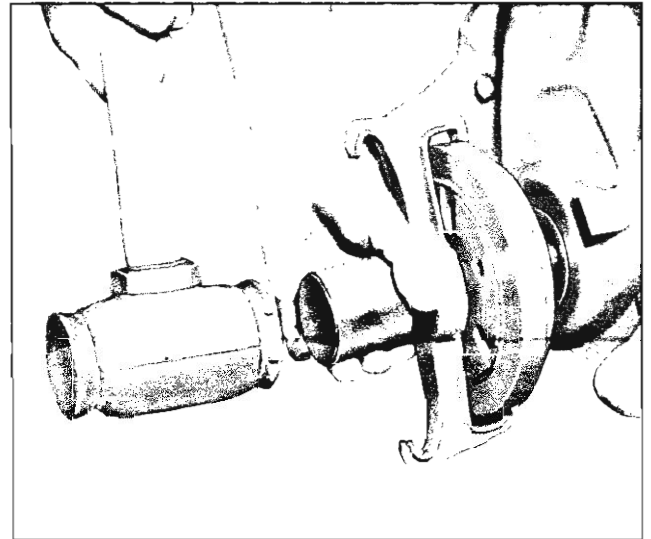

Fig. 87—Installer Tool in Place
3. Install tool over balancer as shown in Figure 87 with pilot adapter in the bore of hub. Tighten threaded driver only finger tight to keep from pulling balancer apart.